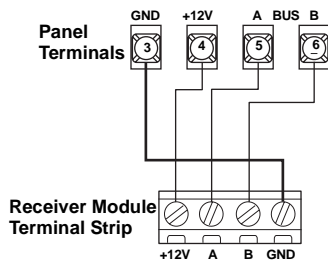

Figure 23. Connecting the SuperBus 2000 RF Receiver to the Panel Terminals
2. Connect the receiver to the panel as shown in Figure 23.